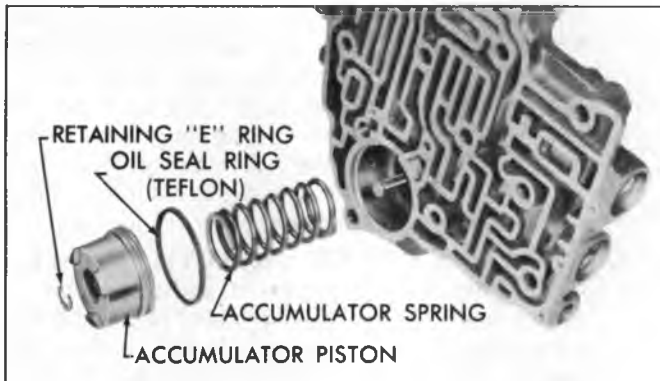

Fig. 54T-Front Accumulator Assembly - Exploded View
4. Remove front accumulator piston and spring (fig. 54T).
**NOTE:** See figure 54T. Do not remove the teflon oil seal ring from the front accumulator piston unless the oil seal ring requires replacement. For service, the oil seal ring is cast iron.